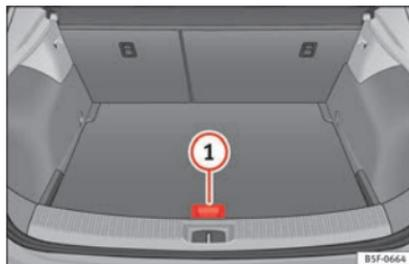

Fig. 180 Luggage compartment: variable floor
- Lift the variable floor using handle »» Fig. 180 ①, pull it back and push the backrest of the rear seat until the movable part of the floor is resting on it.